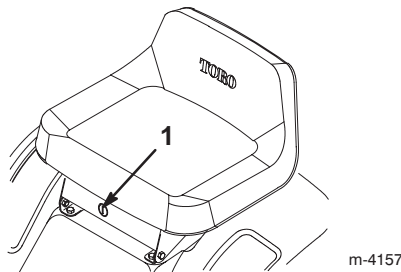

Figure 11
If you need to use the blades (PTO) while backing up, you can turn off this interlock feature using the KeyChoice switch located near the seat bracket (Fig. 11).
2. Insert the KeyChoice key into the switch (Fig. 11).